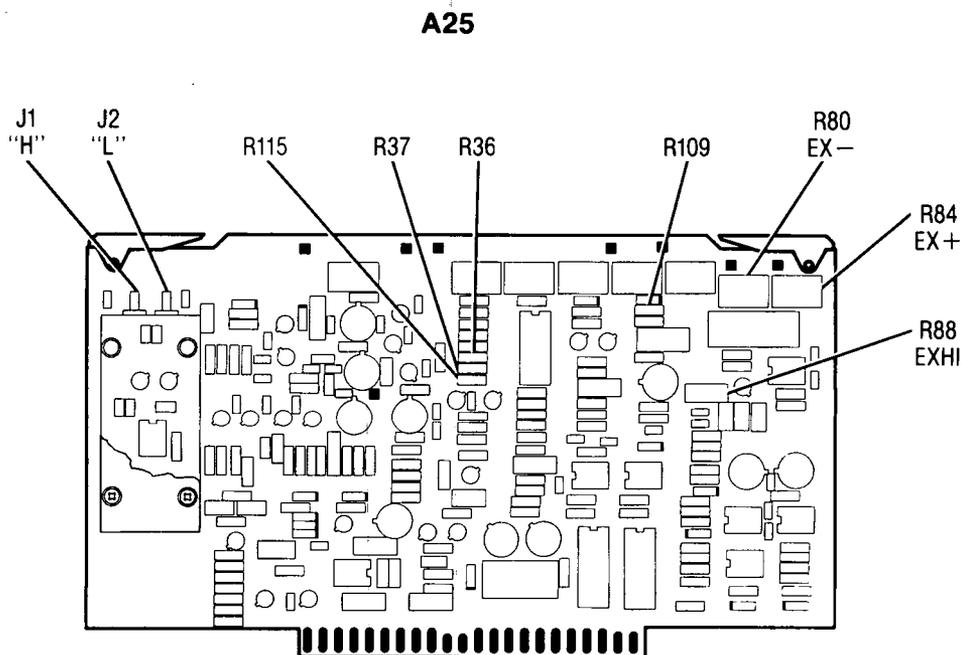

Figure 5-47. ALC Detector A25 Temperature Compensation Adjustments Location
2. Disconnect cables W26 and W27 from A25J2 and A25J1 respectively (Figure 5-47), and remove the A25 PC board from the instrument.